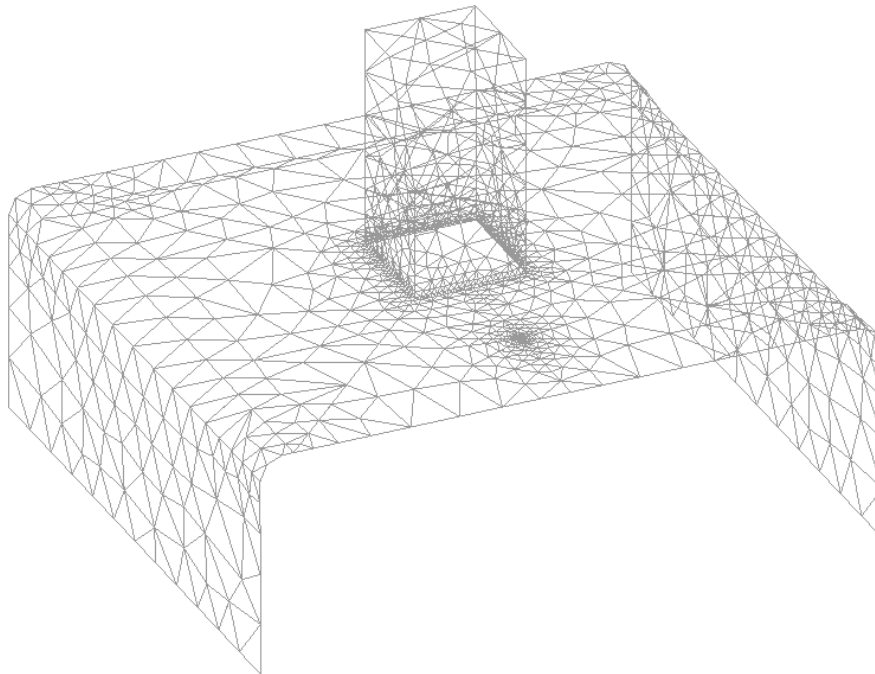

Figure 7. Mesh with a concentration of elements around lines.
- 8 . Another window appears in which you may enter a maximum element size. Leave the default value unaltered and click **OK**. This results in a high concentration of elements around the chosen lines, given that the selected element size (0.5) is much smaller than that of the rest of the elements in the model (see Figure 7).